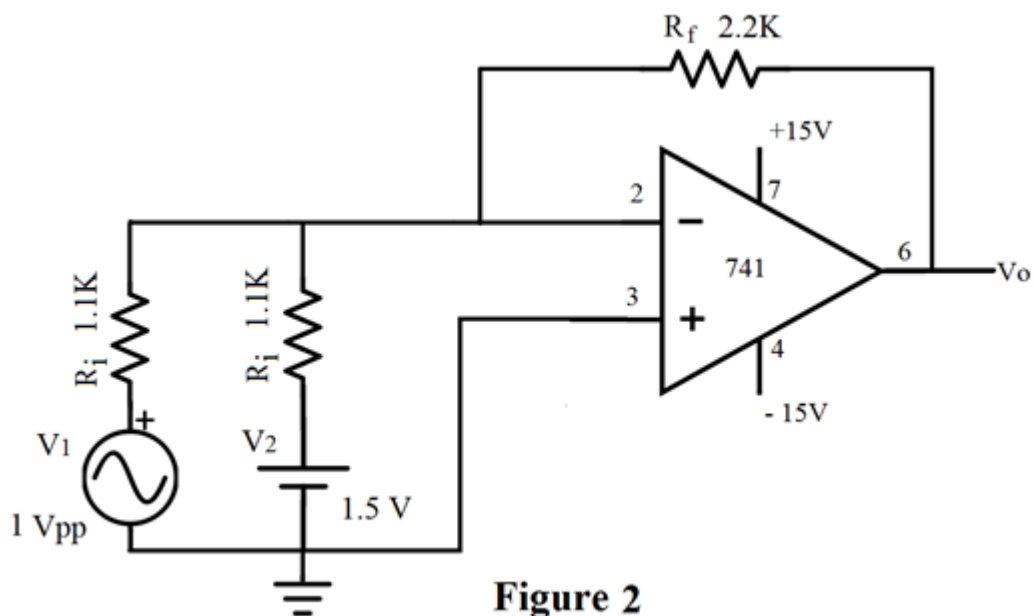

Figure 2
9. Repeat the procedure with $V_1 = 1V_{pp}$ / 1 KHz sine wave and $V_2 = +1.5V_{dc}$ as shown in fig2.